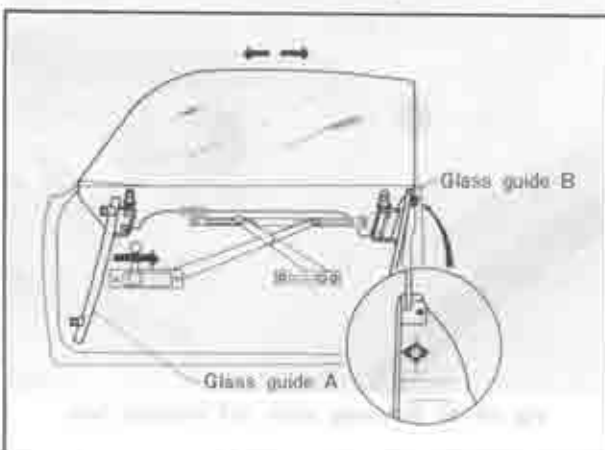

Fig. 14-59 Fore and aft adjustment
2. Push rearwards the glass guide A as shown in Fig. 14-59 and tighten the upper bolt.